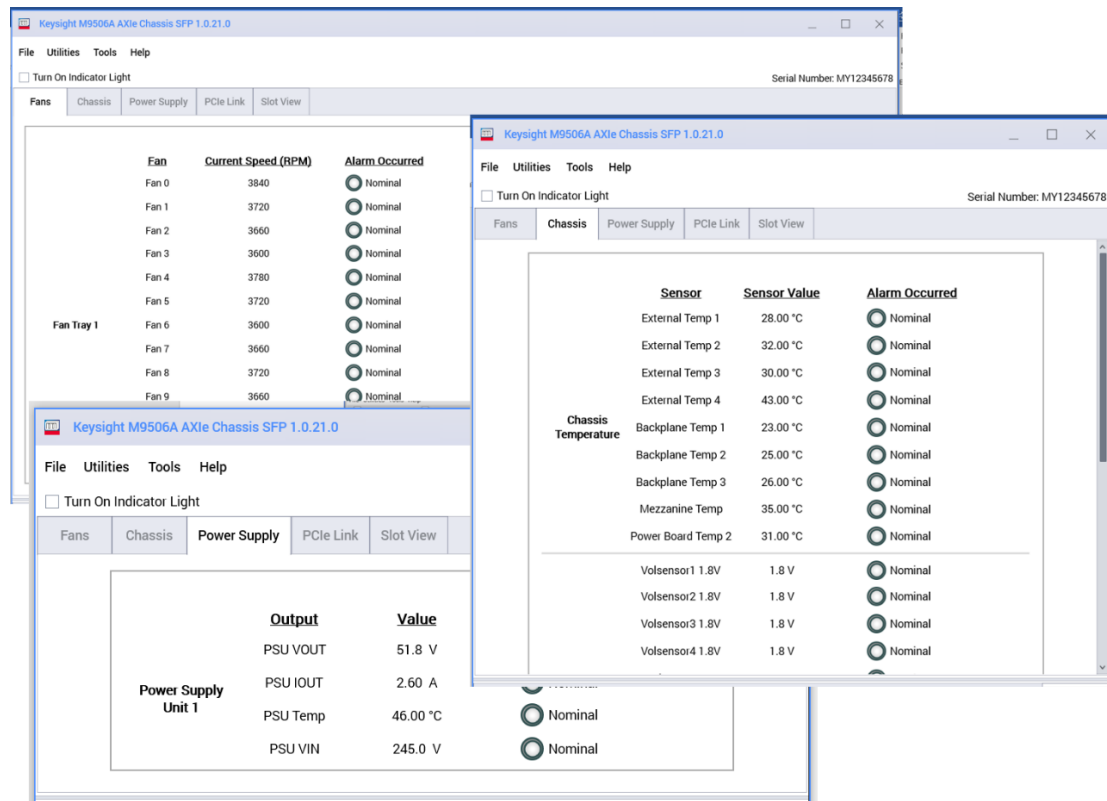

Figure 6. Chassis monitoring SFP
- The chassis monitoring SFP has some of the basic functionality of the chassis Web page and allows the user to review numerous performance characteristics such as fan speeds, chassis temperatures, and power supply operating conditions. The monitoring SFP is shown in Figure 6.